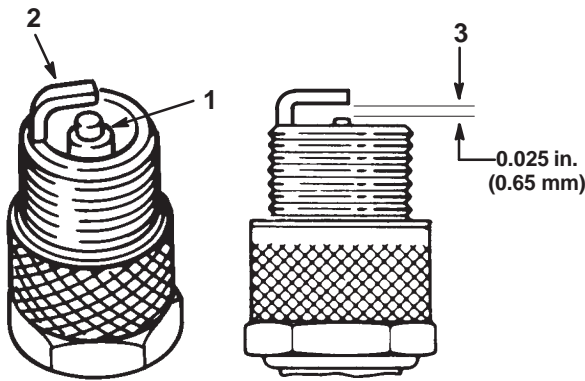

Figure 27
- Look at the center of the spark plug(s) (Fig. 27). If you see light brown or gray on the insulator, the engine is operating properly. A black coating on the insulator usually means the air cleaner is dirty.
2. Check the gap between the center and side electrodes (Fig. 27). Bend the side electrode (Fig. 27) if the gap is not correct.